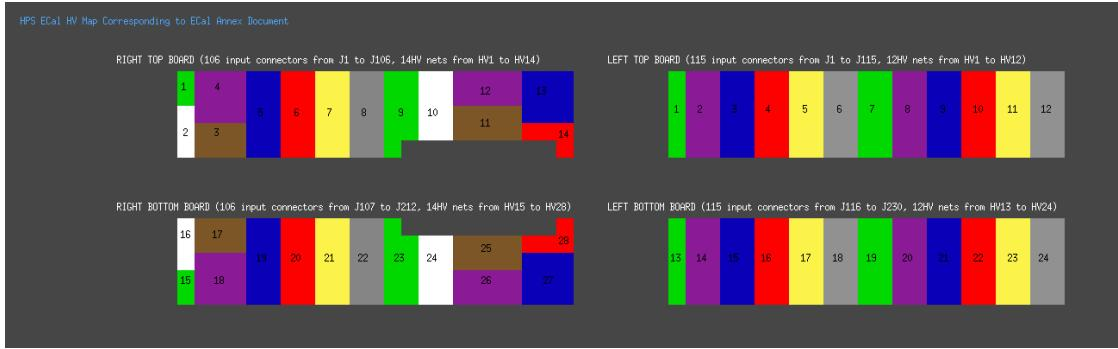

Figure 20: Expert HV channel map for reference.
**NOTE:** The ECal HV groups had to be renumbered in the EPICS, the correspondence map (figure 20) is available in the main ECal HV monitoring window with the Expert HV Map button.